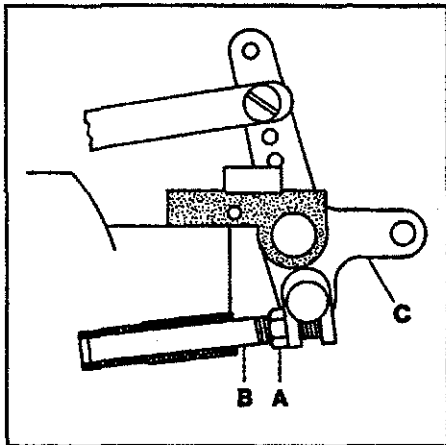
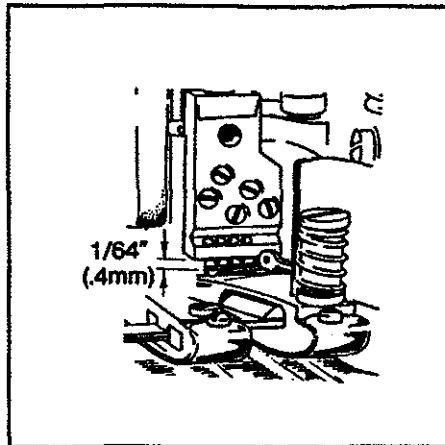

FIG. 23
FIG. 24
The presser foot lifter stop plunger must be set so the hook will not hit the bottom of the needle head as the presser foot is being lifted. Position the needle bar to its lowest point of travel. Loosen nut (A, Fig. 23) and turn plunger (B) clockwise until it strikes the crankshaft counterweight. While applying pressure to lifter (C) to lift the foot, back out of the plunger until the distance between the hook and the underside of the needle head is 1/64" (0.4mm) (see Fig. 24). Tighten nut (A, Fig. 23).